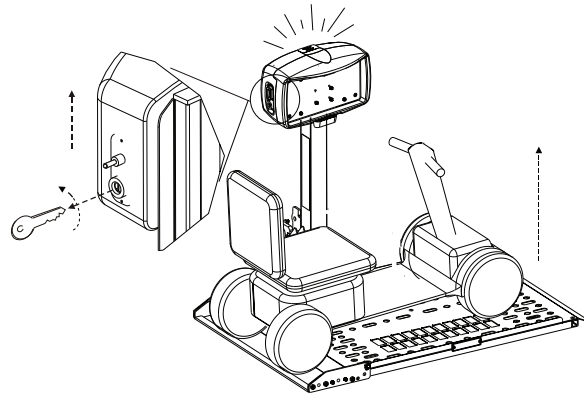

Figure 7-5
3. Remove the key. **See Figure 7-5.**